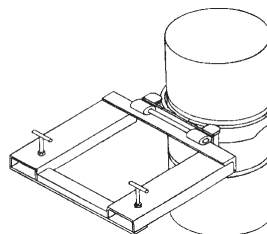

Figure 5
6. Raise the forks slowly. The grips will close around the drum, grabbing it under the upper rolling rib. (Figure 5)